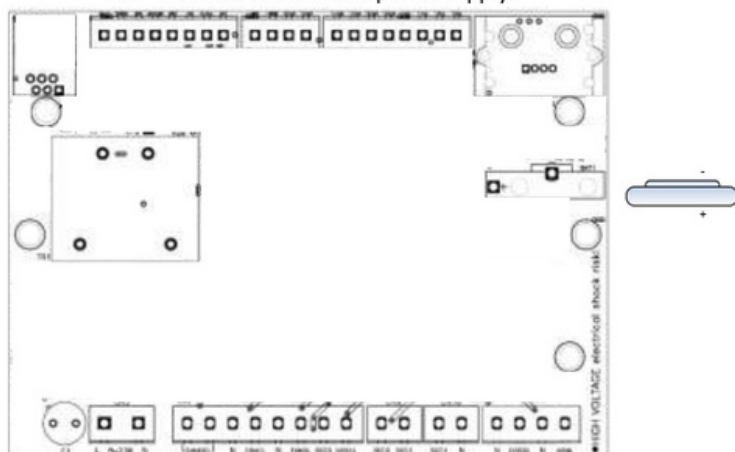

Figure 5: Replacing the battery
2. Locate the battery on the PCB (see Figure 5)
4. Check the polarity orientation and insert the new battery (refer to Figure 5)